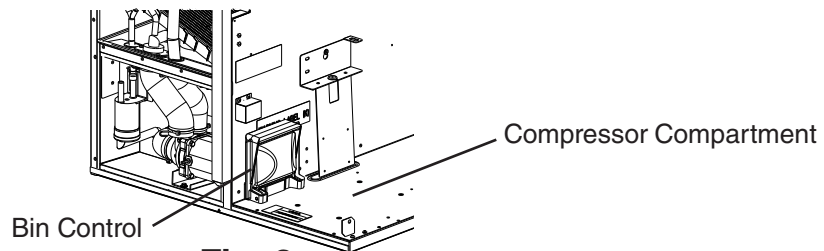

Fig. 3
- 2) Remove the bin control from the compressor compartment. See Fig. 3.